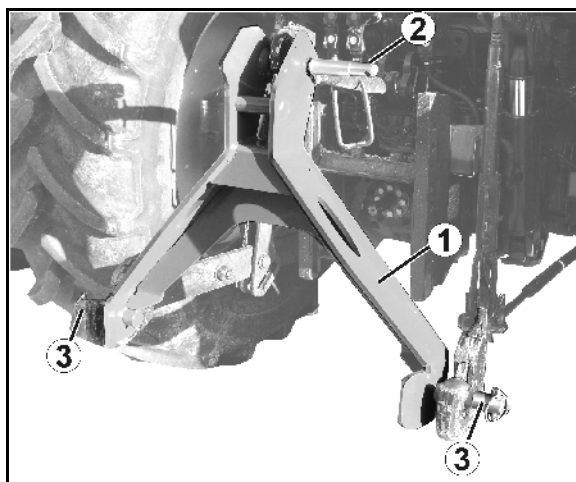

Fig. 53
- use the upper link pin (Fig. 53/2) of the coupling triangle, fit with a ball sleeve and secure with a linchpin.
- fit the lower link pin with ball sleeves, fit the spacer sleeves (Fig. 53/3) and secure with a linchpin.